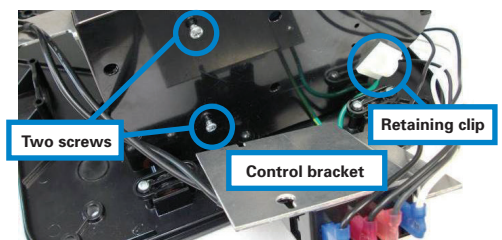

Figure 3
**2.** Remove the two (2) screws that fasten the control bracket onto the dryer and **save them for Step 12**. Remove the four wires from the white retaining clip while keeping them attached to the Control (**Figure 3**).